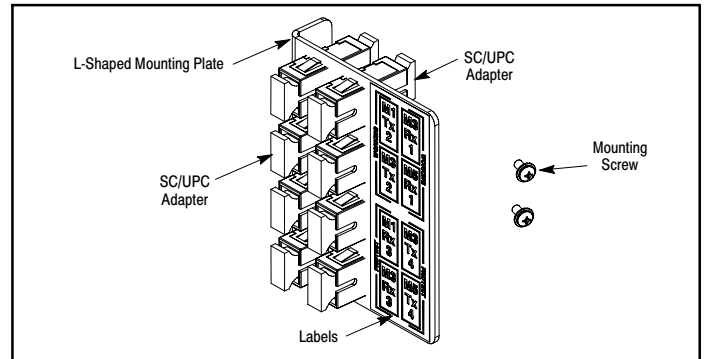

Figure 1. Ring Application Adapter Kit
1.1 Document Purpose. This document provides instructions for the field technician to properly retrofit and install the Charles 80-002665-F Ring Application Adapter Kit (shown in Figure 1) into an existing field-installed Charles CFDP210-EL24-type Interconnect OSP pedestal. Consult the document shipped with the pedestal for pedestal installation instructions and instructions to prepare, splice and terminate fiber cables inside the pedestals. Call Charles Industries (see Part 3) to request more information or literature on this or other products.